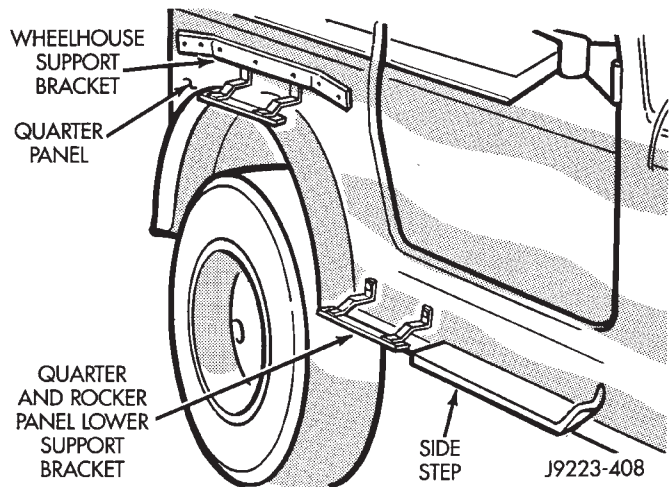

Fig. 58 Rear Quarter Extension Panel Brackets
The quarter and rocker extension panel support bracket (Fig. 58) also supports the rocker extension panel. Before the bracket can be re-
(1) If removed, install the quarter and rocker extension panel support bracket (Fig. 58), and attach the rocker extension panel to it. If necessary, refer to the installation procedure.